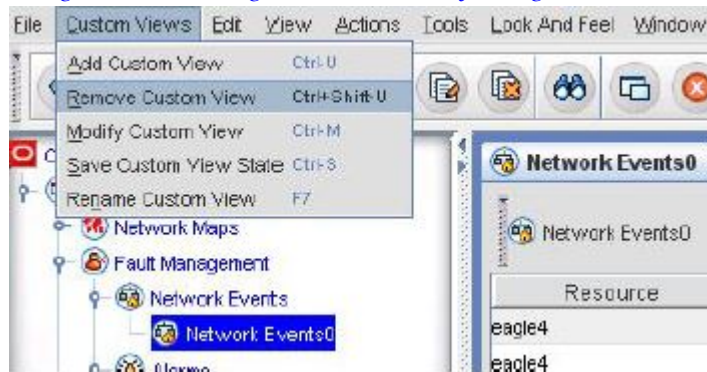

Figure 128: Deleting a Custom View By Using Menu Bar
- From the **Custom Views** menu in the top menu bar, choose **Remove Custom View** as shown in Figure 128: Deleting a Custom View By Using Menu Bar.